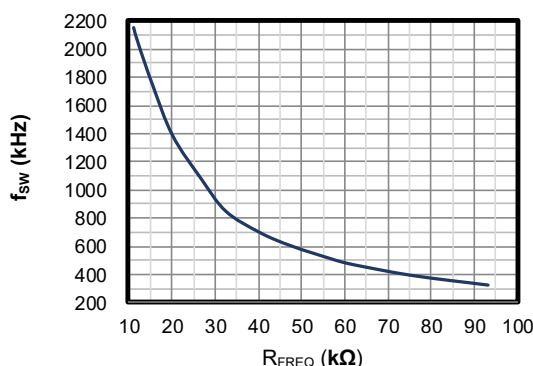

Figure 1: R3 Frequency Resistance
7. The MPQ4314's oscillating (switching) frequency can be configured by an external frequency resistor (R_3). R_3 can be estimated based on the switching frequency (f_{sw}) vs. frequency resistance (R_{FREQ}) curve (see Figure 1).